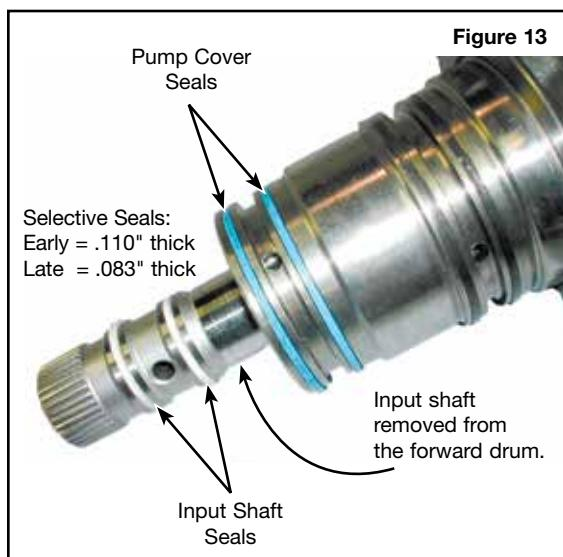

Figure 13
- Install rings onto the pump cover (**Figure 13**).
- Install solid PTFE seals onto the input shaft. Resize with your fingers. Pre-lube seals and install into the stator for final sizing (**Figure 13**).